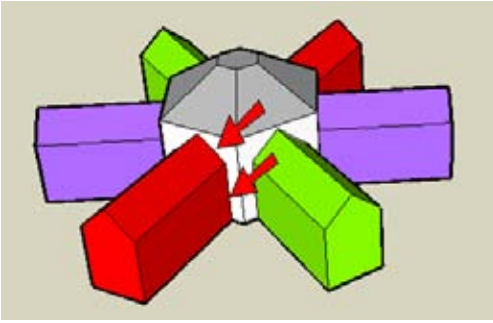

Figure 3-21
6. Select everything, right-click on any selected object, and choose **Intersect**→**Intersect with Model**. You now have edges along each vertical face (Figure 3-21).